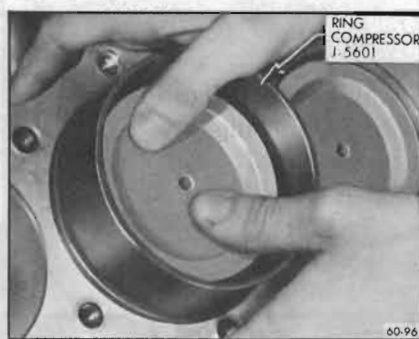

Figure 60-338—Installing Piston with Compressor Installed
13. Lubricate the piston and rings and install in bore by compressing the rings either with a "wrap around" compressor or a split ring type such as shown in Figure 60-338.